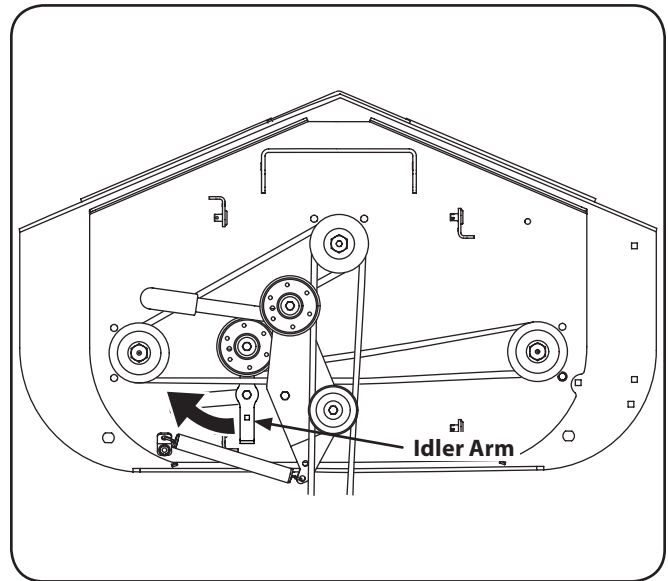

Figure 7-3
3. Using a ½" socket breaker bar or socket ratchet insert the male end into the ½" square opening in the lower idler arm assembly and pull the idler arm clockwise. See Fig. 7-3. While holding the idler arm back, loosen the deck belt from the pulley and slide the belt away from the pulley.